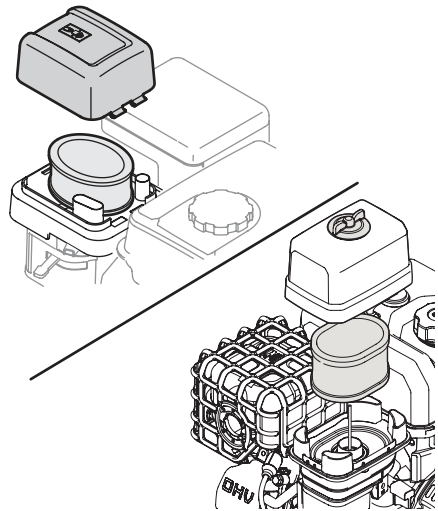

Figure 11
1. Press the tab on the air filter cover and lift the cover, or unthread the thumbscrew, depending on the model of engine (Figure 11).